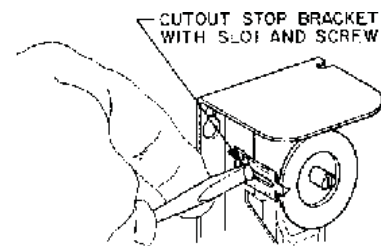

Fig. 5 -- All models have a screw type cutout stop. The stop screw must be loosened and moved to the stop setting desired. Tighten screw after setting is made.
3. Loosen the cutout stop screw, slide the screw to the front of the temperature control against the plastic step behind the dial and tighten the screw. (See Fig. 5.) Sometimes an exact stop setting is not possible and stop must be set to the closest stop corresponding to dial setting required.